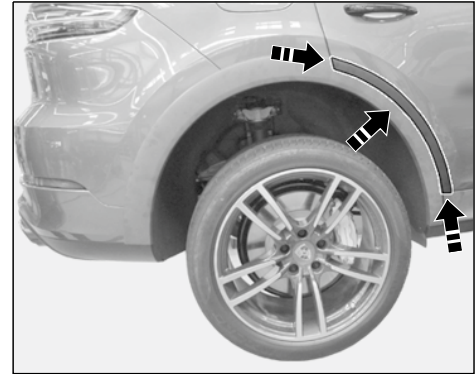

Figure 7
- 4.1.3 Install extended wheel arch trims ⇒ *Figure 7* at the rear left and right doors.
- 4.1.5 Remove protective film from the bonding surface on the wheel cover ⇒ *Figure 7*.
- 4.1.6 Install wheel cover at the door so that it is flush and looks right ⇒ *Figure 7*.